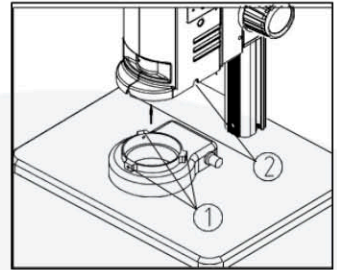

Fig.2
Move the LED ring light close to the microscope body according to the arrowhead direction, align the three screw holes (1) with the thread groove (2), and lock the screw with a M4 inner hexagon spanner (side length 2mm). (See Fig. 2)